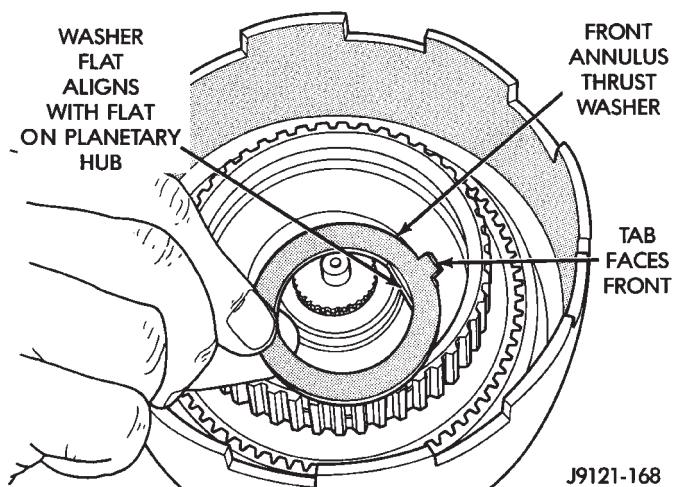

Fig. 82 Installing Front Annulus Thrust Washer (42RH)
(20) Install front annulus thrust washer (Fig. 82). Align flat on washer with flat on planetary hub. Also be sure washer tab is facing forward.